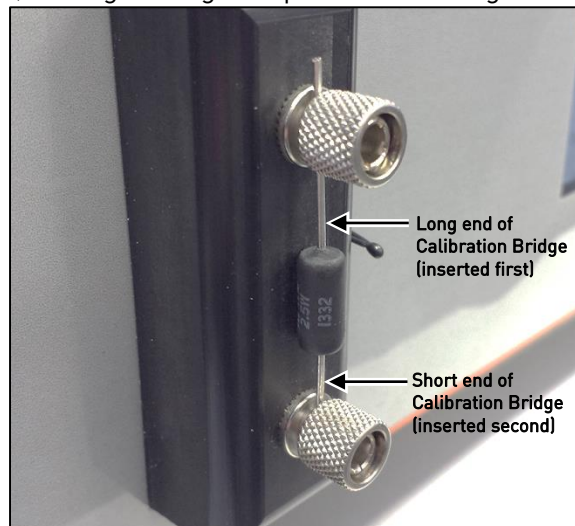

Figure 31 - Calibration Bridge in CAT-100 Binding Posts
2. Connect the Calibration Bridge to the binding posts (It is *not* necessary to sand the calibration bridge). Do this by first inserting the **long end** of the Calibration Bridge into a binding post first, tightening that post, then inserting the **short end** of the Calibration Bridge in the other binding post, and tightening that post. See Figure 31.